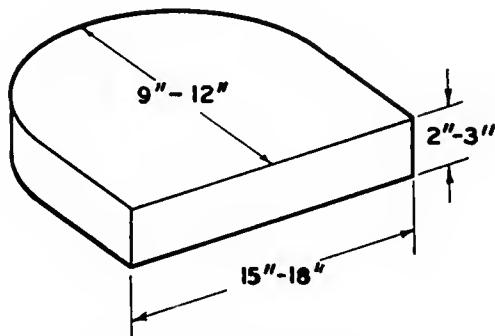

Fig. 10. A cheese block.
**Cheese block.** A wooden block in the shape of a half circle, 2 to 3 in. thick, used for pressing flat and curved surfaces (Fig. 10). It should be made of